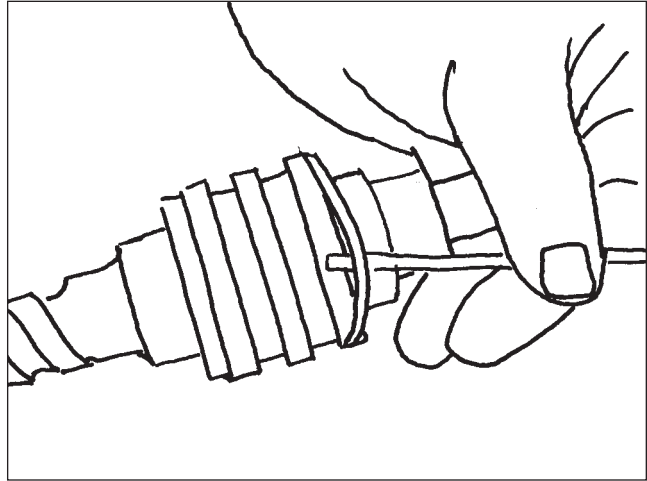

Figure 116
- Carefully stretch the rotary valves seals over the energizing O-rings (Figure 116).